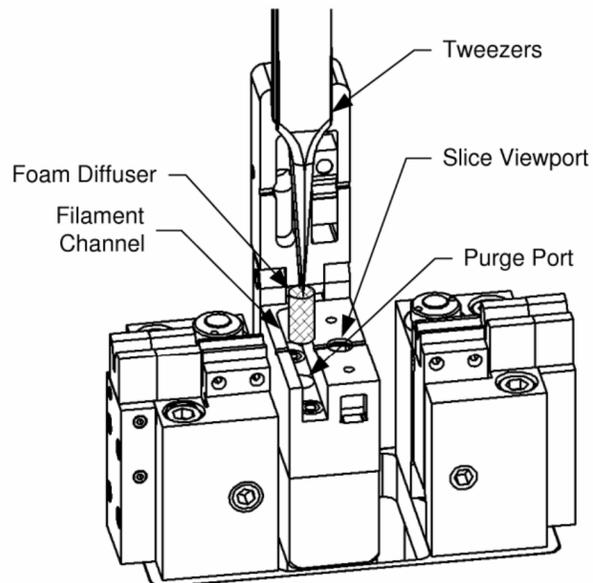

Figure 64 *Removing the Foam Insert*
- Locate the pink foam diffuser in the purge port of the filament channel (Figure 64). If the foam diffuser looks to be seated approximately 1/32" below the top of the filament channel, and does not appear to be damaged or dirty, proceed to step 13.